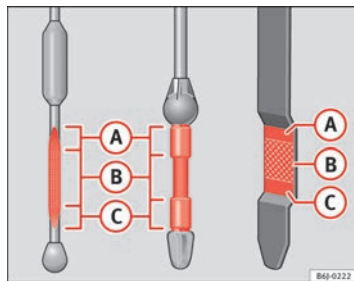

Fig. 166 Engine oil dipstick
- Then pull it out once more and check the oil level ⇒ page 237, fig. 166. Top up with engine oil if necessary.